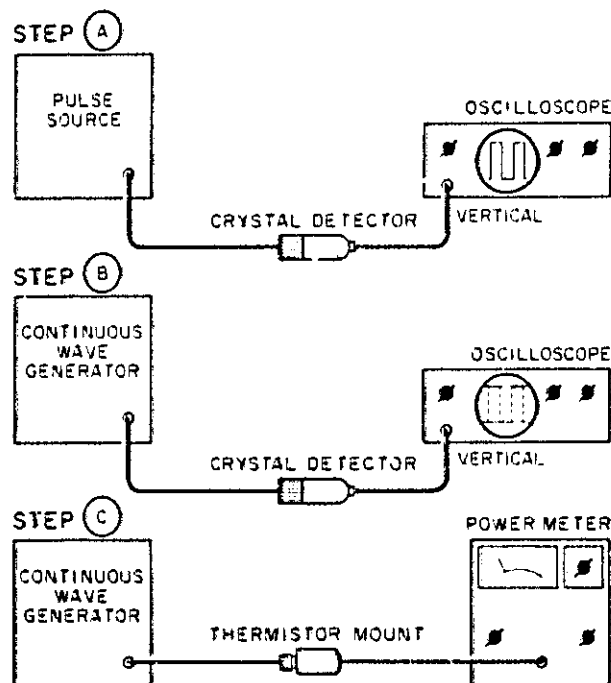

Figure 1. Peak Power Measurement
27. **Peak Power Measurement.** The arrangement of equipment for peak power measurement is shown in Figure 1. The procedure involves calibration of an oscilloscope which, in turn, is used to calibrate a CW generator. The output of the calibrated CW generator is measure with a power meter; the peak power of a pulse is thereby measured. The procedure is as follows:
- Connect equipment as shown in Figure 1, step a. Observe pulse on a dc-coupled oscilloscope. Using a marking pencil, mark on the graticule the base-to-peak amplitude of the pulse envelope.